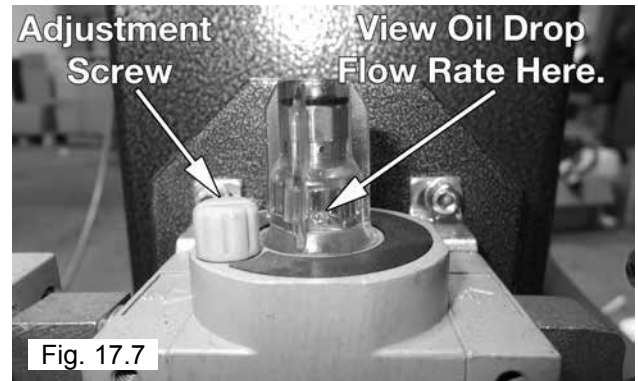

Fig. 17.7
2. Observe the site glass and adjust the oil flow of the oiler by turning the Oiler Adjustment Knob so that 2-3 drops of oil drip through the site glass for each operation of the Bead Breaker Pedal. (See Fig 17.7)